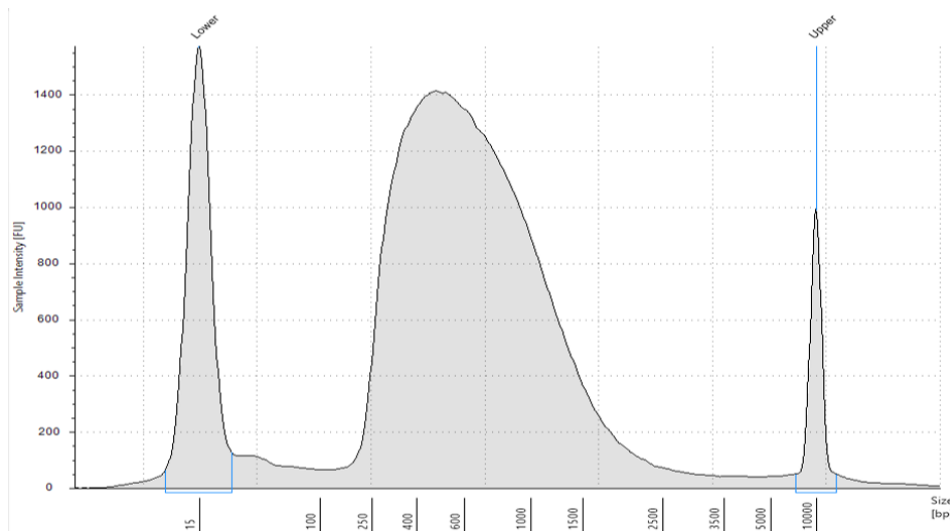

Figure 1. An example of cleaned up library profile from a TapeStation High Sensitivity D5000 ScreenTape assay.
3. A good-sized library should have most library fragments under 1000 bp (Figure 1).